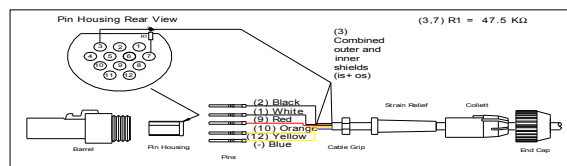

Fig 2.2
11. Solder all wires, except shields, to the rear of pins and push/pull firmly into correct locations as shown in fig 2.2.